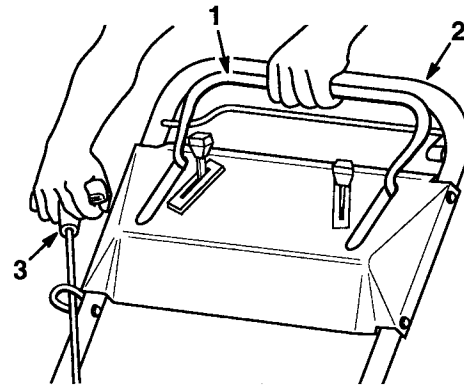

Figure 13
3. Hold blade control bail against upper handle (Fig. 13).
4. Pull starter handle (Fig. 13) lightly until resistance is felt, then pull sharply. Let rope return to handle slowly.